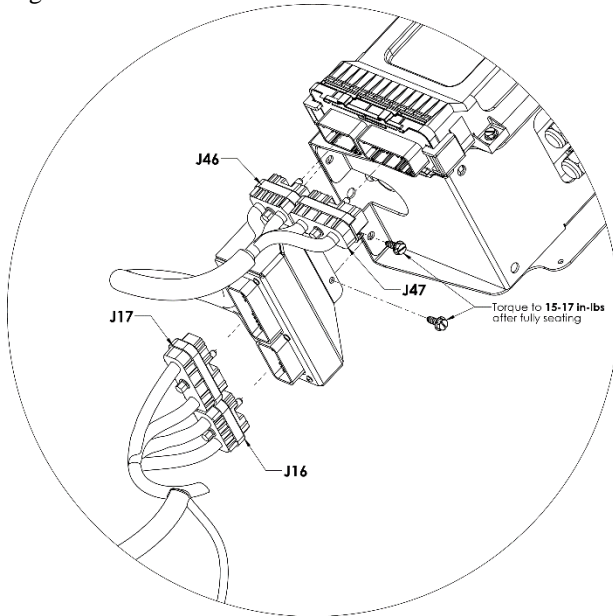

Figure 2: Jumper Harness Installation
15. Attach the Jumper Harness to the enclosure, refer to Figure 2